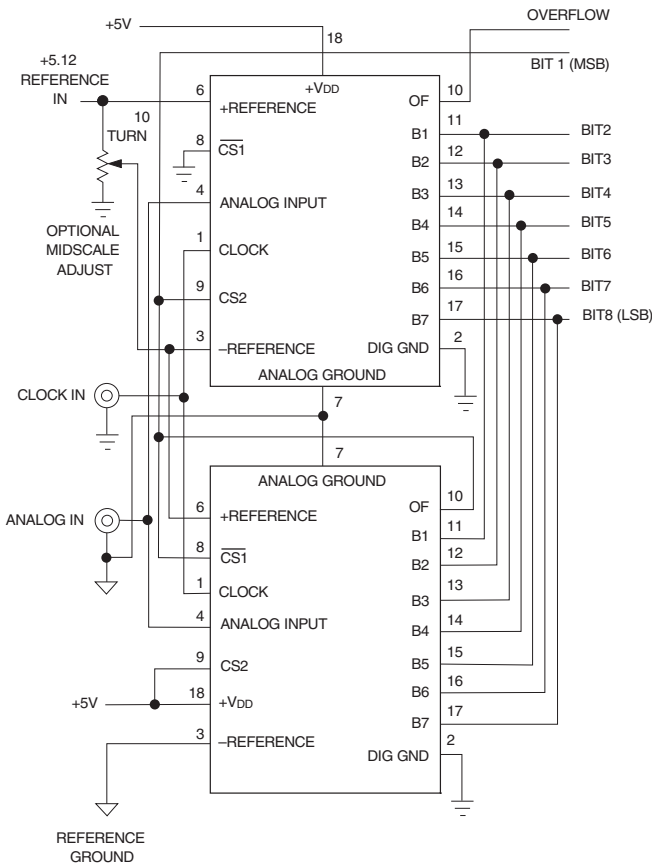

Figure 4. Using Two ADC-207s for 8-Bit Operation
3. Clock Pulse Width – To improve performance at Nyquist bandwidths, the clock duty cycle can be adjusted so that the low portion of the clock pulse is 12ns wide. The smaller aperture allows the ADC-207 to closely resemble an ideal sampler. See Figure 4.
Two ADC-207s (A and B) are cascadable for applications requiring 8-bit resolution. The device A provides a typical 7-bit output. The OVERFLOW signal of device A turns off device A and turns on the device B. The OVERFLOW signal of device A is also used as MSB for 8-bit operation. The device B provides the other seven bits from the input signal. Figure 4 shows the circuit connections for the application.